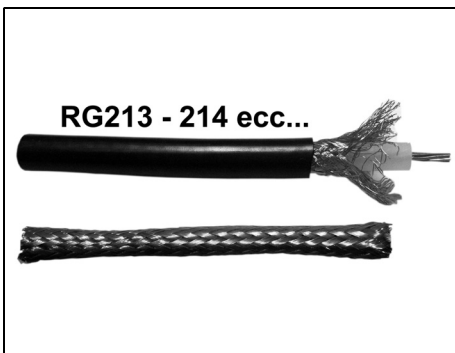

Fig 1: Save 7 to 10cm of shield from RG213.
- Save 7 to 10cm of the shield from RG213 or RG214 coax cable as shown in Fig 1. RG58, RG59, RG142 etc can also be used for ferrites with small holes.